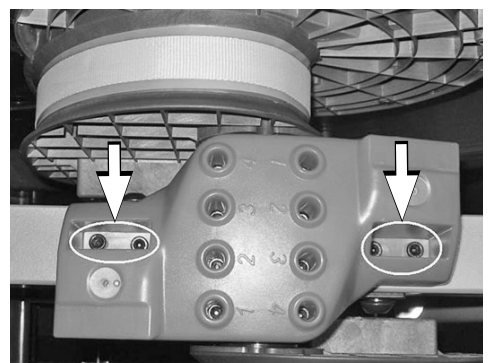

Figure 1-3
1-4 Use a 7/32" hex key to remove 4 hex screws from the red plastic cam-stop (see Figure 1-3), remove and set aside with screws.
- 3-4** Replace the red plastic cam stop using a 7/32" hex key to replace the 4 hex screws remove in step 1-4 (see Figure 1-3).